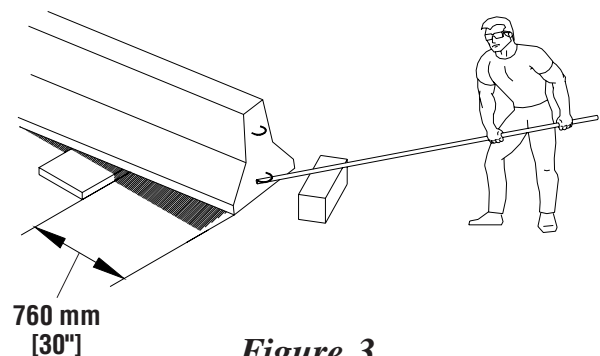

Figure 3
Step 1: Lifting the PCMB (See Figure 3)
- Insert the Wedges through the Backup Attachment Brackets and into the loops, one from the top and one from the bottom, as shown in Figure 3. Place a nut on top end of the 762 mm (30") long threaded 1/2" diameter rod and insert it through the upper and lower wedges. Place nut on bottom of threaded rod so that rod does not protrude past bottom of CMB. Align the bottom of the Support Frame with the bottom and centered left to right on the PCMB section. Torque to 80 Nm [60 ft-lbs].